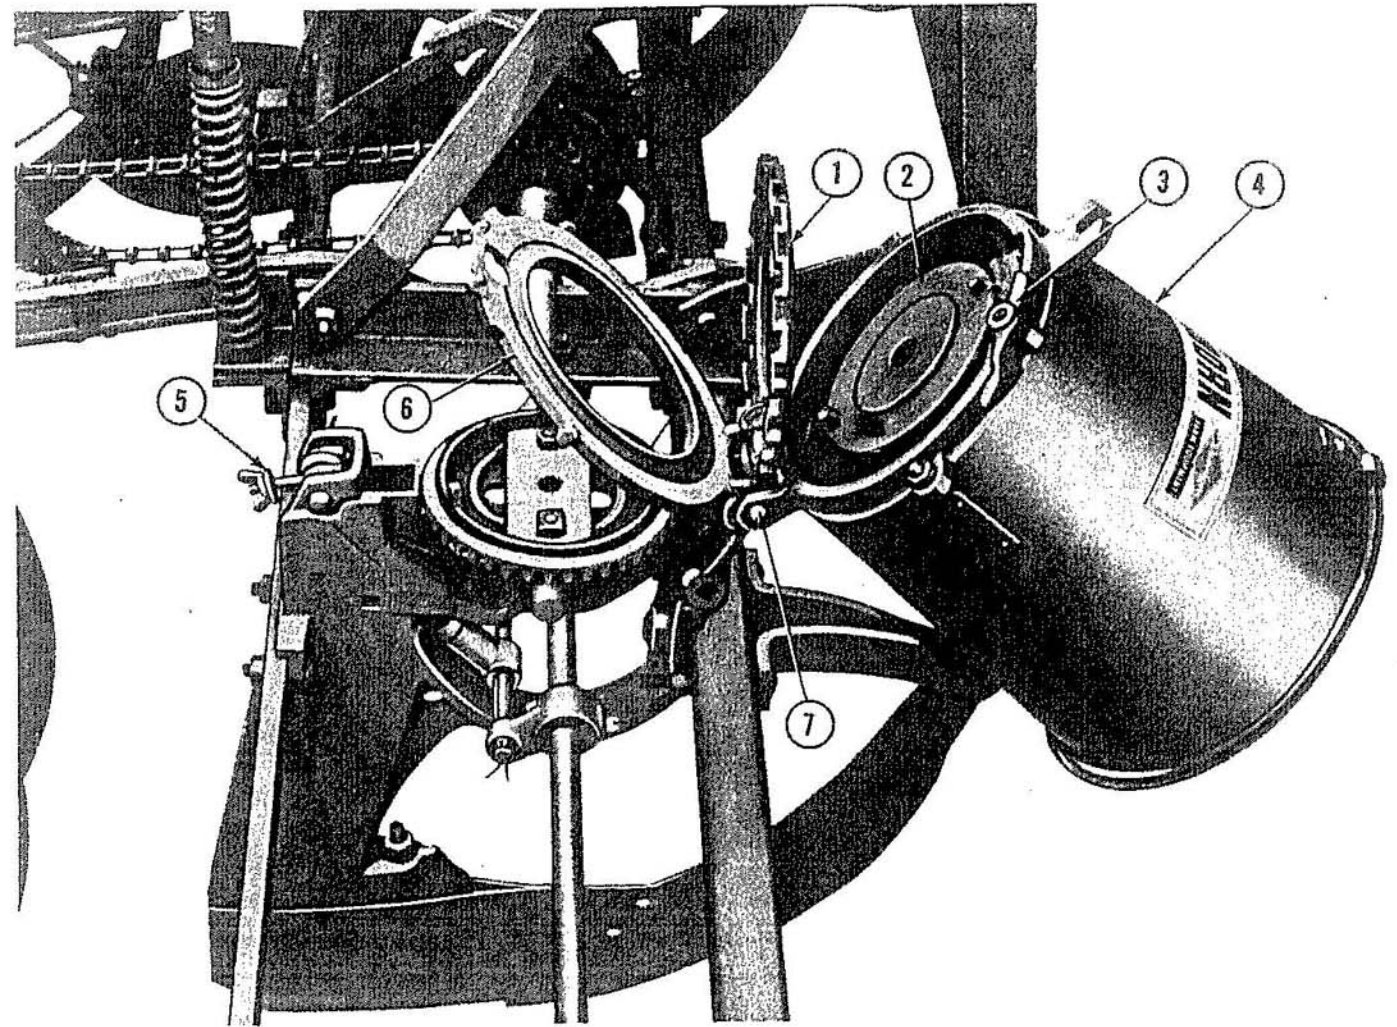

Figure 5
15. Attach a seed hopper (4), Figure 5, and the reversible base plate (6) to the planter boot bracket with the hinge pin (7) and the cotter pin provided.
17. Place the desired seed plate (1), Figure 5, on the bottom of the seed hopper (4), so that the num-
18. Engage the notches on the inside of the seed plate (1), Figure 5, over the driving lugs on the seed hopper bottom plate (2), and raise the base plate (6) to hold it in place.
- a. Secure the seed plate (1), Figure 5, and the base plate (6) to the hopper bottom with the latch (3).
- b. Set the seed hopper upright and secure with the hook bolt and wing nut (5), Figure 5.
- Release the latch (3), Figure 5, and change seed plates.
- Lock the new plate and base plate to the hopper with the latch (3), Figure 5.
- Set the hopper in place and secure with the hook bolt and wing nut (5), Figure 5.